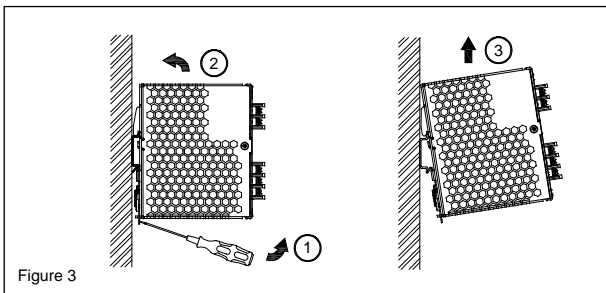

Figure 3
4. Dismounting (Fig. 3)
To uninstall, pull or slide down the latch as shown in Fig. 3. Then, slide the PSU in the opposite direction, release the latch and pull out the PSU from the rail.